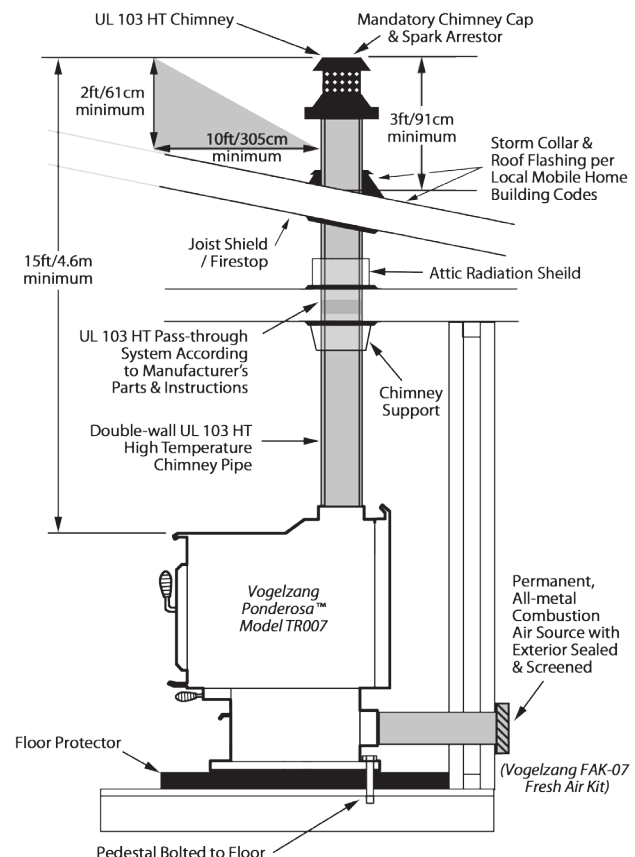

Figure 9 – Mobile Home Installation
2. Install a fire clay (5/8”/16mm minimum thickness) thimble. Make sure the thimble is flush with the inner surface of the chimney liner and does not protrude into the flue (see figure 9 on page 9).